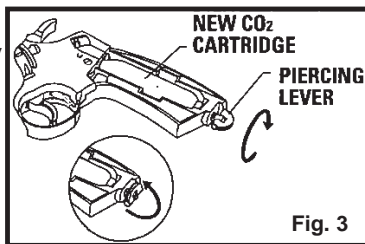

Fig. 3
- With your thumb and finger, turn the piercing lever clockwise to pierce the CO₂ cartridge. (Fig. 3) Never use any tool on the piercing lever. Overtightening can cause injury to you and/or damage to your airgun.